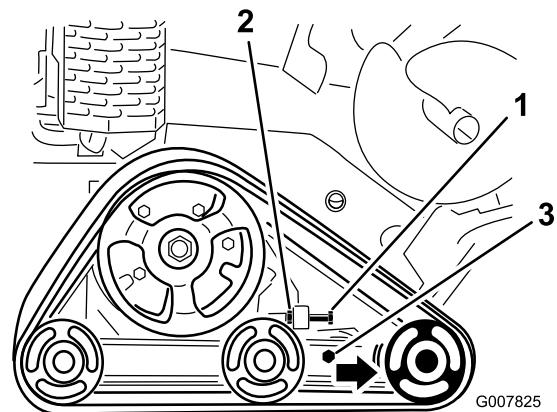

Figure 46
3. Loosen the jam nut on the track tensioning bolt and the clamp bolts on the tension arm (Figure 46).
4. Torque the tensioning bolt to 32.5 to 40 N·m (24 to 30 ft-lb) to tighten the track (Figure 46).
4. Back out the tensioning bolt and jam nut (Figure 46).
5. Loosen the clamp bolts (Figure 46).